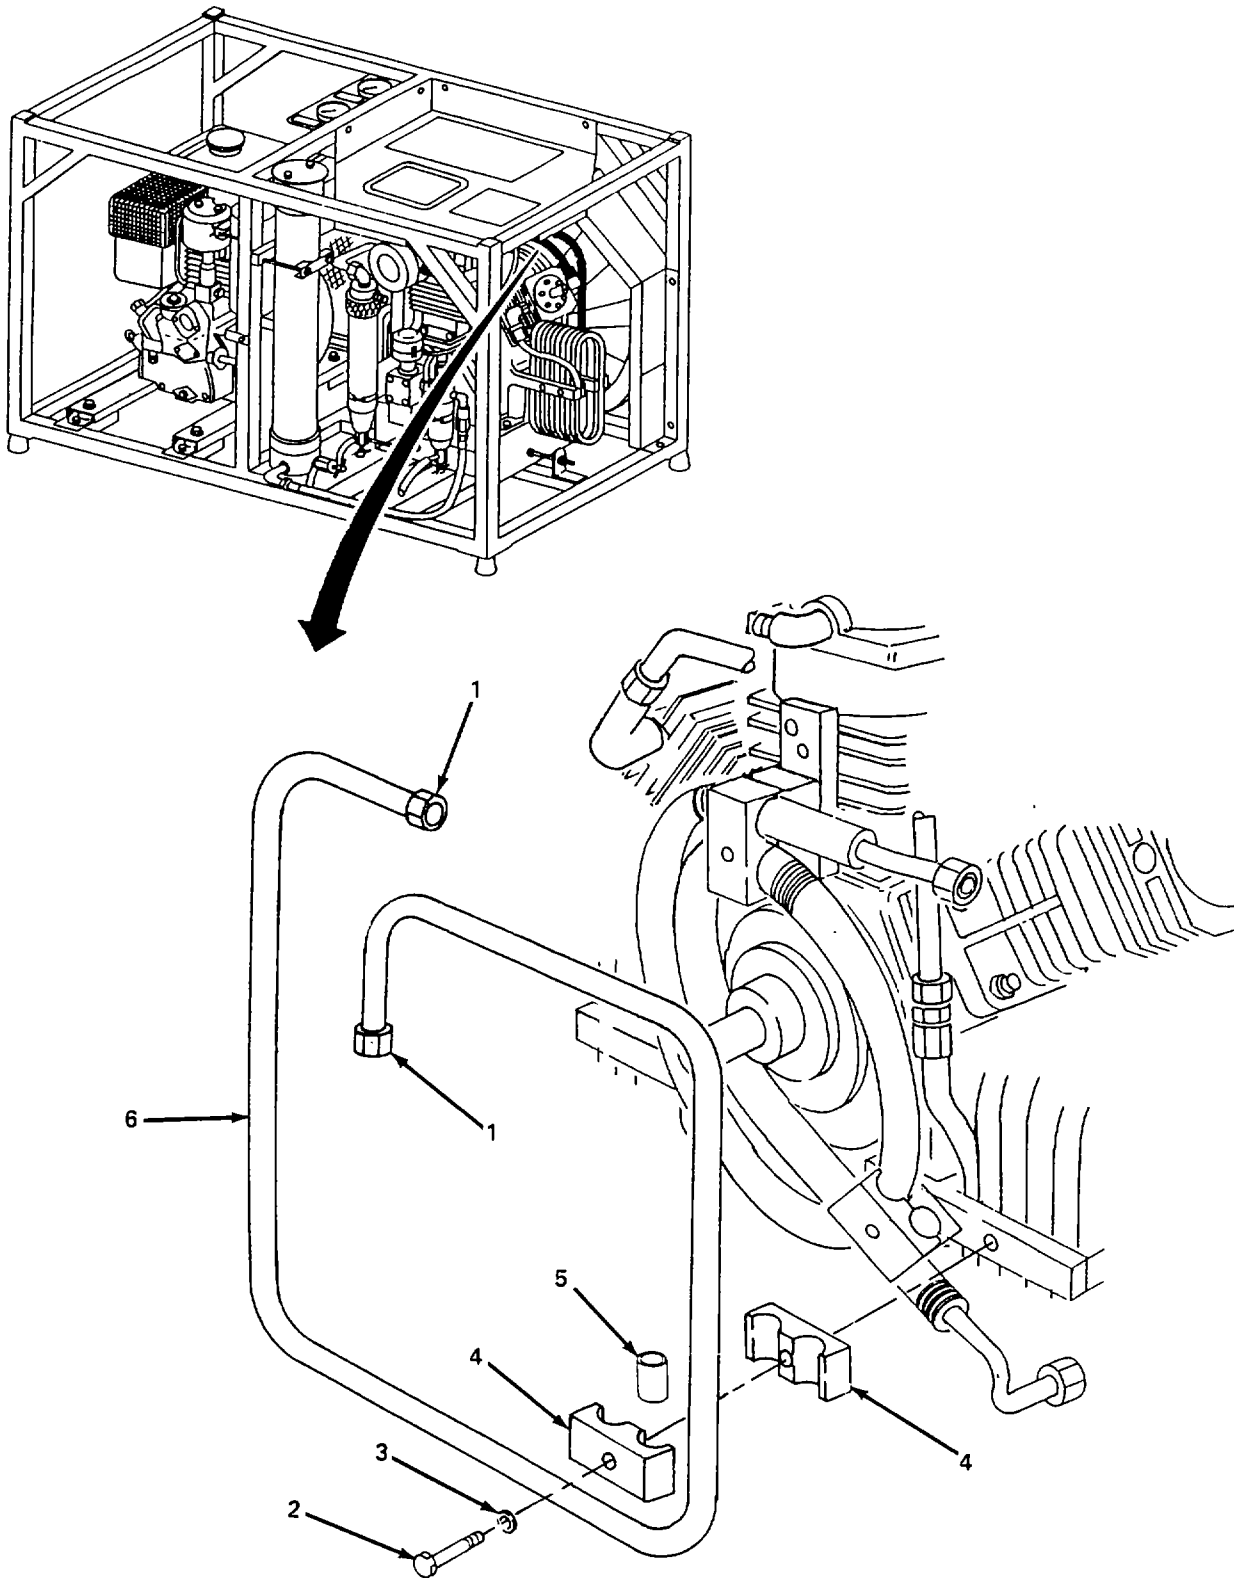

Figure 5-17. First Stage Cooler Line, Replace.
- a. Replace First Stage Cooler Line. (figure 5-17)
- (1) Remove flywheel fan (para. 5-11).